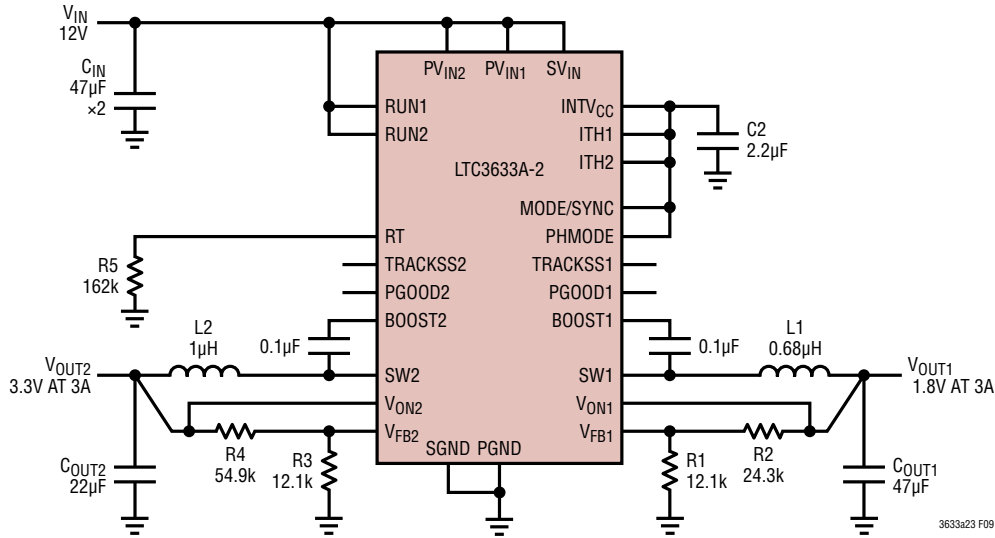

Figure 9. Design Example Circuit
- 3) The resistive divider, (e.g. R1 to R4 in Figure 9) must be connected between the (+) plate of COUT and a ground line terminated near SGND. The feedback signal VFB should be routed away from noisy components and traces, such as the SW line, and its trace length should be minimized. In addition, the RT resistor and loop compensation components should be terminated to SGND.
The final circuit is shown in Figure 9.